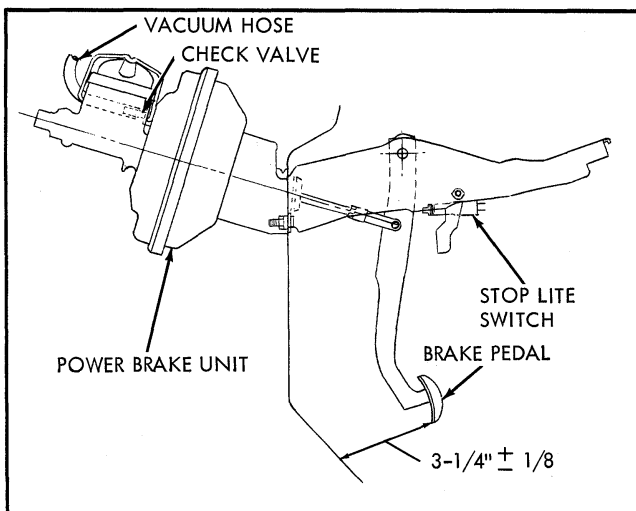

Fig. 5A-5 Simple Schematic of Power Brake System
1. Disconnect vacuum hose at vacuum check valve. Cover hose and valve opening to exclude dust, dirt, etc. (Fig. 5A-5).